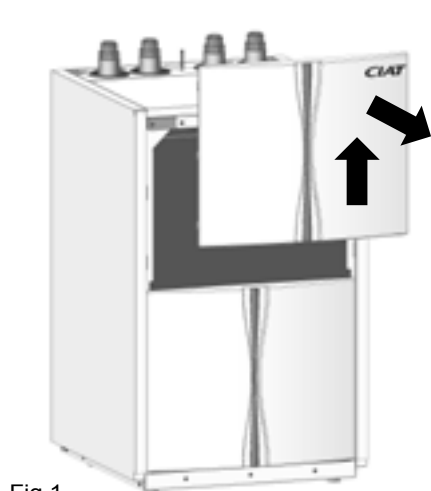

Fig.1
- 1 - Remove the decorative panel from the top of the front panel (Fig.1).